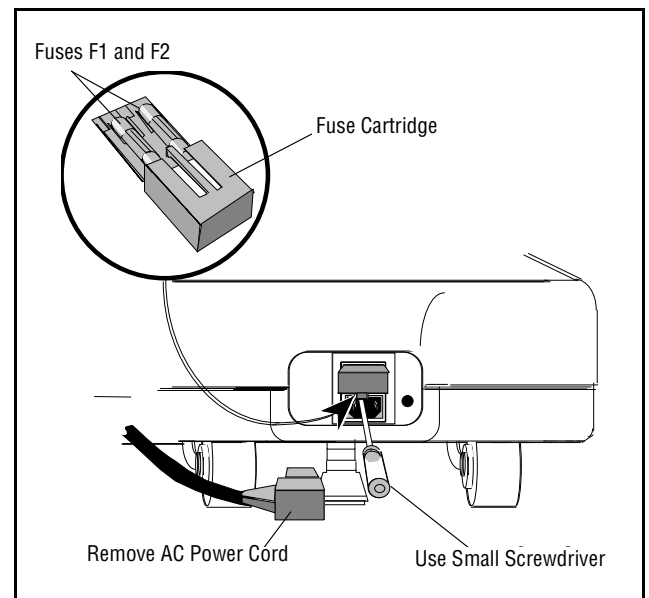

Figure 4-2. Fuse Location
1. Disconnect ac power cord from wall receptacle and table base input (see Figure 4-2).